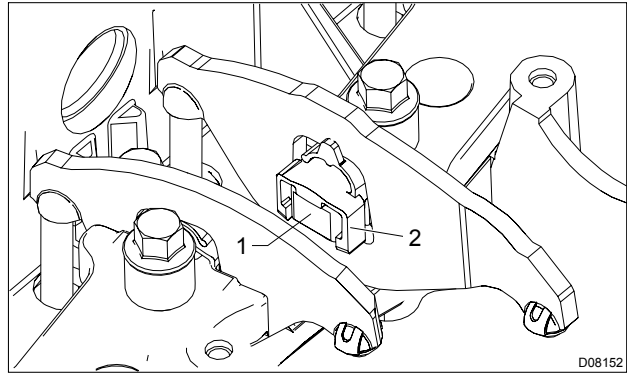

Figure 539 Retaining clip in correct position
15. Refer to illustration (Figure 539) for correctly installed clip. Repeat procedure with adjacent rocker arm.